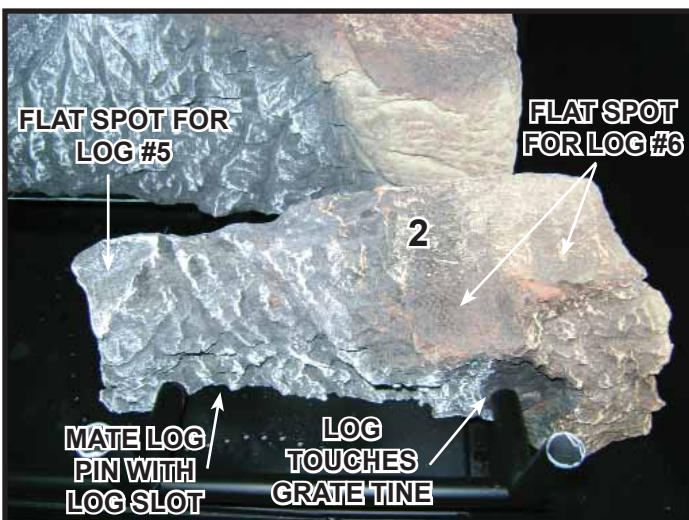

Figure 3. Place Log #2
**Log #2 (SRV2226-702):** Position Log #2 as shown in Figure 3. Refer to Figure 1 and Figure 4 for additional details. Mate the slot located on the bottom of Log #2 with the log pin located on the right side of the burner. Move the right end of Log #2 forward until it comes into contact with the grate tine.